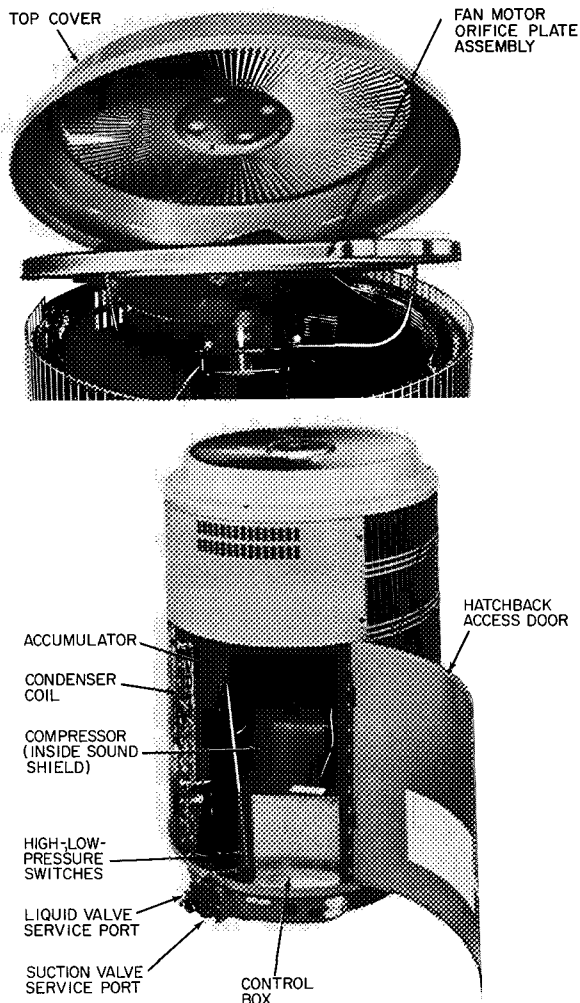

Fig. 6 — Condensing Unit 38VH with Access Door Open
Service port connections are provided on liquid and suction line service valves for evacuation and charging. See Fig. 6.
Compressor Removal — See Table 9 for compressor information and Fig. 6 for component location. Shut off power to unit. Remove refrigerant from unit using refrigerant removal methods described in Carrier Standard Service Techniques Manual, Chapter 1, Refrigerants.
1. Turn off power to unit. Failure to do so may result in electric shock. Open door and remove top access panel if so equipped. See Fig. 6.